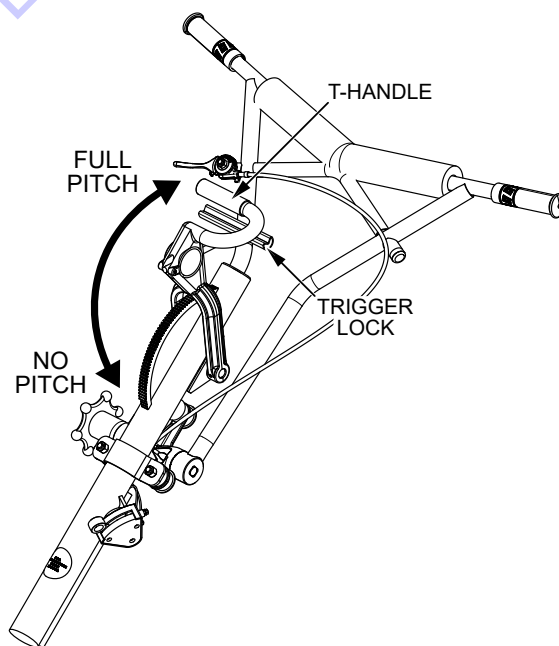

Figure 12. Blade Pitch Cable Adjustment (Quick Pitch™ Handle)
2. For trowels equipped with a **Quick Pitch™** handle, squeeze the trigger lock and push the T-handle towards the engine to release tension on the blade pitch cable. See Figure 12.